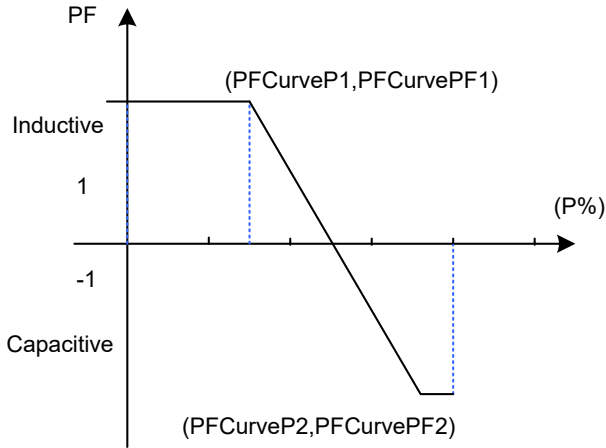

Figure 6-31 PF(P) Curve Mode
- PF(P) Curve: PF curve mode. Note: The power factor changes according to the power change, as shown in Figure 6-31.
Note: The reactive compensation changes according to the grid voltage change, as shown in Figure 6-31.